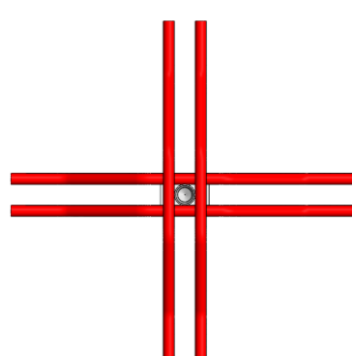

Figure 9 Axial tension reinforcement depending on the load group
① To ensure optimal spacing, the utilization of concise anchors alongside a substantial minimum quantity of u-bars is mandated, with a requirement for intervals not exceeding 150 mm. ② To ascertain the necessity of diagonal pull reinforcement, refer to the load tables, particularly when $\alpha > 12.5^\circ$ ③ To ensure proper reinforcement alignment, in cases where the precast element's dimensions limit the diagonal pull reinforcement length, it's permissible to bend the last 40% of the bar into a loop shape. ④ Additional reinforcement is required for both axial and diagonal tension. This reinforcement is placed over the plate of the anchor and proper contact must be ensured. See Figure 9.